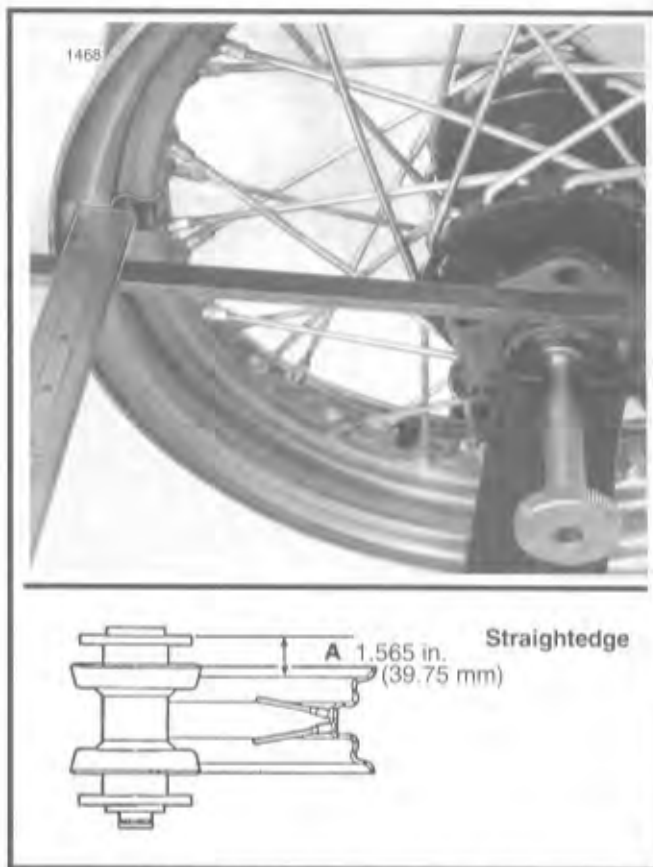
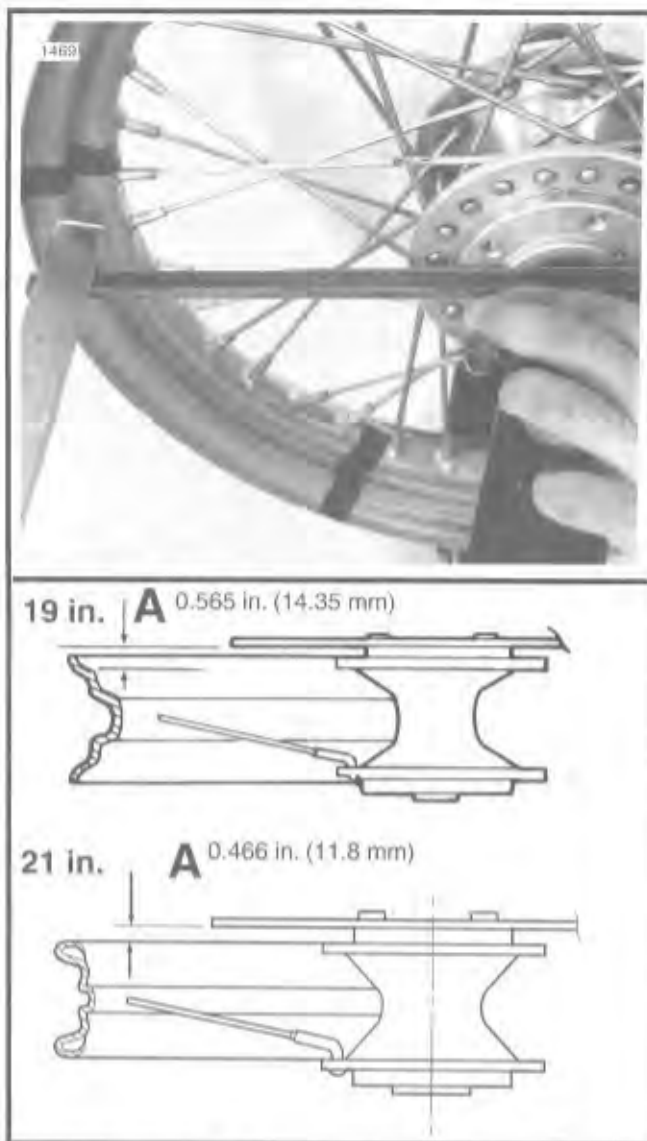

Figure 2-28. Centering 16-in. Hub
Figure 2-29. Centering 19-in and 21-in Hub
4. See Figure 2-28, and Figure 2-29. The hub must be centered sideways with the rim. Lay a straightedge across the hub brake disc flange and one of the marked spoke groups. Measure the distance from the straightedge to the rim as shown. If this dimension is not equal on both sides of the wheel, loosen and tighten the four spokes accordingly. Use SPOKE WRENCH (Part No. HD-94681-80).
See Figure 2-28, and Figure 2-29. Dimension "A" must be maintained to ensure centering of wheel on motorcycle.
10. See Figure 2-28, and Figure 2-29. Check dimension A and retrue wheel if not within specifications.